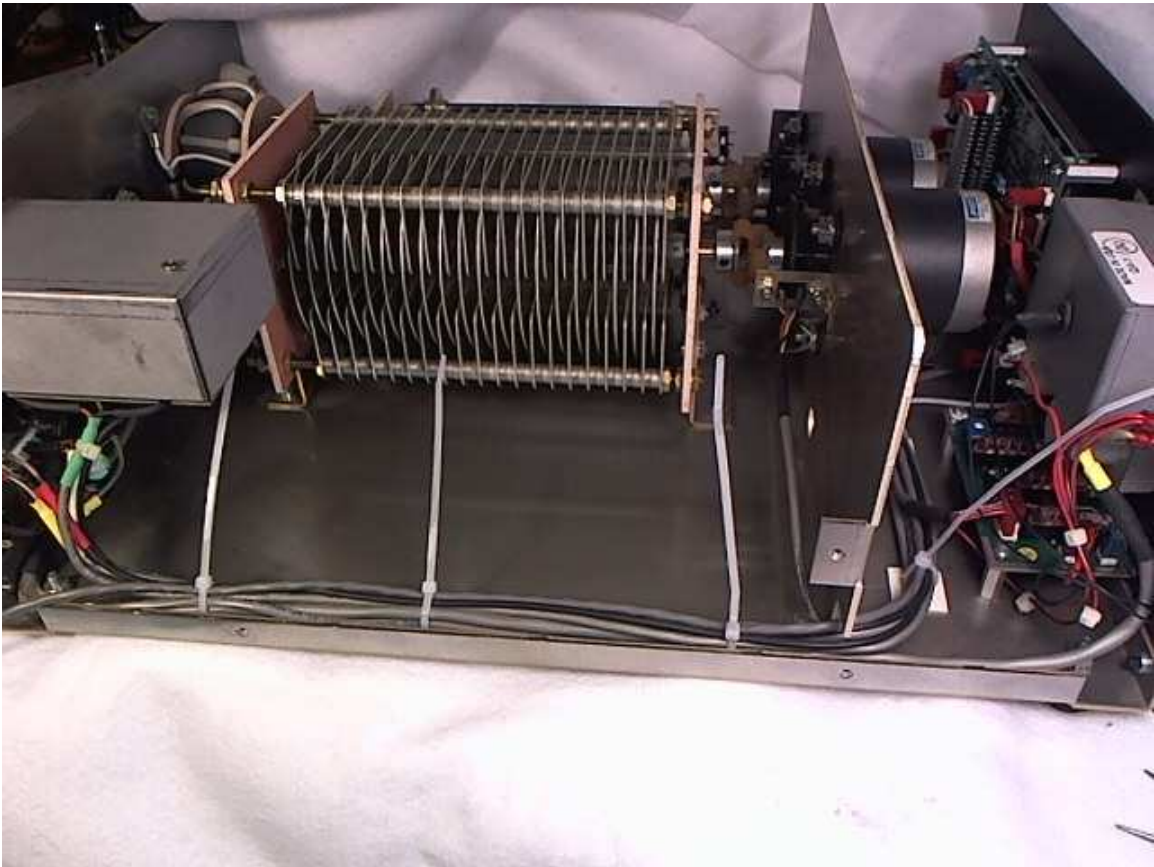

Figure 1.11: AT-AUTO_(tm) Wiring Harness Installation
3. Route the wiring harness along the side of the AT-AUTO_(tm) and secure with nylon wire ties as shown in Figure 1.11 and then trim nylon wire ties.